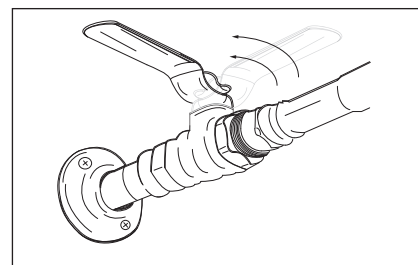

Figure 10 - Cold water supply in OFF position.
- 7 Turn the cold water supply valve **OFF** (Figure 10).